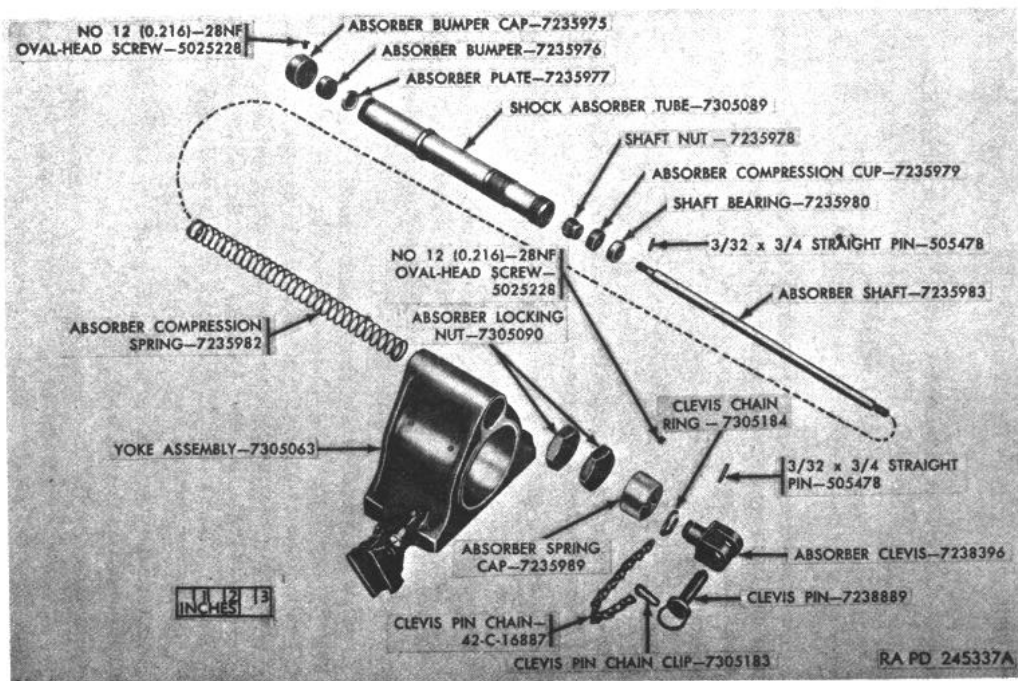

Figure 49. Shock absorber assembly 7305092---81-mm mortar mount M23A1--- exploded view.
*a.* Unscrew oval-head screw from shock absorber spring cap and unscrew cap from rear of shock absorber tube (fig. 49).
*b.* Withdraw shock absorber shaft (fig. 49), with assembled parts from tube.
*c.* Drive out straight pin which secures shock absorber clevis to shock absorber shaft and unscrew clevis (fig. 49) with assembled parts from the shaft, taking care to release spring slowly so that it will not throw the shock absorber clevis and spring cap rearward.
*d.* Remove clevis pin, with chain, clip, and ring from absorber clevis (fig. 49).
*e.* Remove shock absorber compression spring from absorber shaft (fig. 49). Drive out straight pin which retains shaft nut on shaft, unscrew shaft nut, and remove shock absorber compression cup and shaft bearing from shaft (fig. 49).
*f.* Unscrew oval-head screw from shock absorber bumper cap and unscrew cap from shock absorber tube (fig. 49). Shock absorber bumper and shock absorber plate may be removed together with bumper cap because suction created in bumper causes it to cling to cap and plate. A slight twisting force will separate these parts. Should bumper and plate remain in tube after cap is removed, use shaft to remove them.
*g.* Unscrew absorber locking nut from shock absorber tube and withdraw tube from yoke assembly (fig. 49).
- b. Pass shock absorber tube (adjacent threaded sections leading), through upper hole of yoke assembly (fig. 49), from front face, until external shoulder of tube contacts yoke body. Screw shock absorber locking nuts (fig. 49) over first threaded section of tube until locked tightly.
- c. Insert shock absorber plate into shock absorber tube, through front end, seating it solidly against internal shoulder, follow with shock absorber bumper (fig. 49), and press firmly against plate so that end of tube and bumper are flush. Screw shock absorber
bumper cap (fig. 49) on tube threads. Aline screw holes and screw in No. 12 (0.216)-28NF oval-head screw (fig. 49).
d. Slide shaft bearing on shock absorber shaft, from drilled end, follow with shock absorber compression cup, base first, screw shaft nut on shock absorber shaft, aline holes, and drive in 3/32 x 3/4 straight pin (fig. 49). Slide shock absorber compression spring on shaft (fig. 49).
e. Assemble clevis pin, with chain clip and ring, on absorber clevis (fig. 49).
f. Mount shock absorber spring cap on absorber shaft, compressing absorber compression spring, and screw shock absorber clevis (fig. 49) with assembled parts on absorber shaft. Aline holes in clevis and shaft and drive in 3/32 x 3/4 straight pin (fig. 49).
g. Insert absorber shaft with assembled parts into shock absorber tube (fig. 49), making certain that cup enters tube uncurled. (A blunt pointed tool may be used to insert lip of cup into tube.)
h. Screw absorber spring cap on shock absorber tube, aline screw holes, and screw in No. 12 (0.216)-28NF oval-head screw (fig. 49).